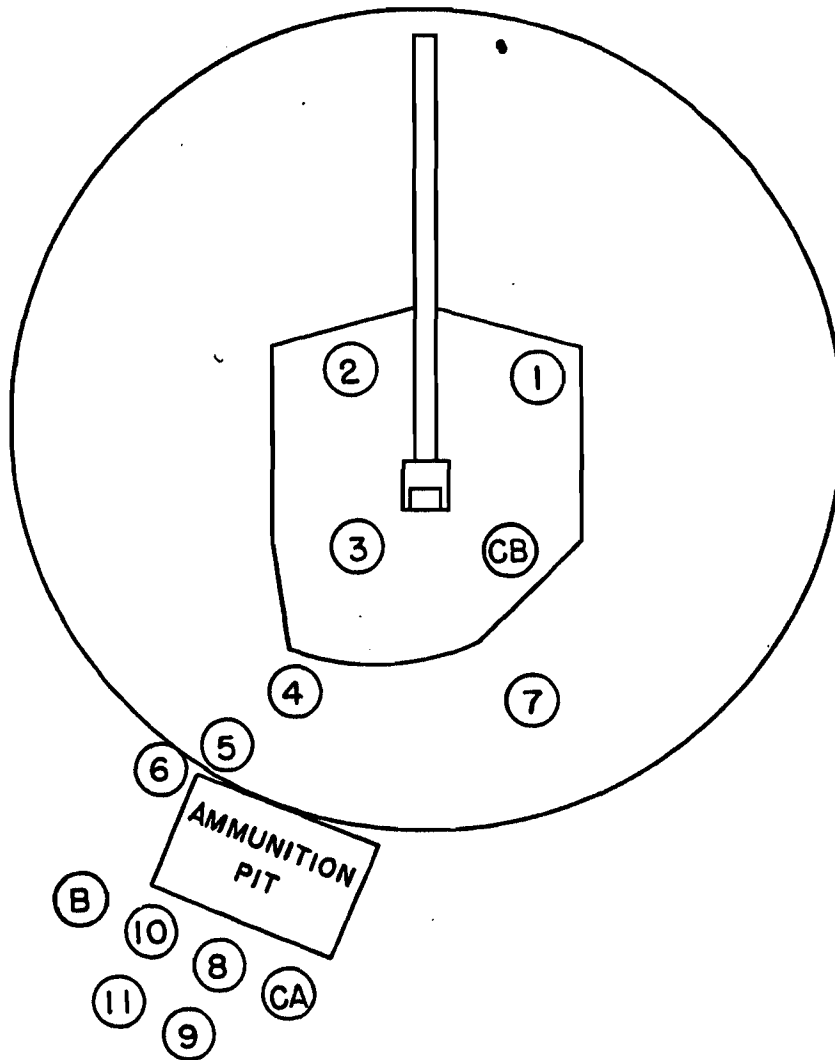

FIGURE 4.—Positions at command DETAILS, POSTS.
b. Details, posts.—At the command DETAILS, POSTS, No. 1 (the elevation setter) and No. 2 (the gun pointer) enter the enclosure formed by the shield and take their positions opposite their respective indicator-regulators. The chief of breech and No. 3 (the loader) follow No. 1 and No. 2 respectively, taking posts at the breech, No. 3 on the left and the chief of breech on the right. Nos. 4, 5, and 6 (the relay men) and No. 7 (the empty cartridge handler) take position, as is shown in figure 4, ready to serve the gun. The ammunition squad forms just behind the ammunition pit. Servicing